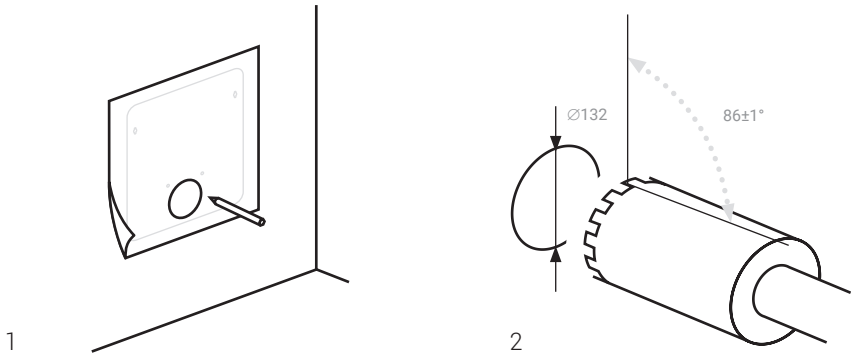

Figure 6.2 – Air duct drilling
4. Put aside the mounting template and drill the duct in accordance with the requirements stated in Figure 6.2. To prevent the decoration from contamination while in the process, use an industrial vacuum cleaner with a water collecting ring.